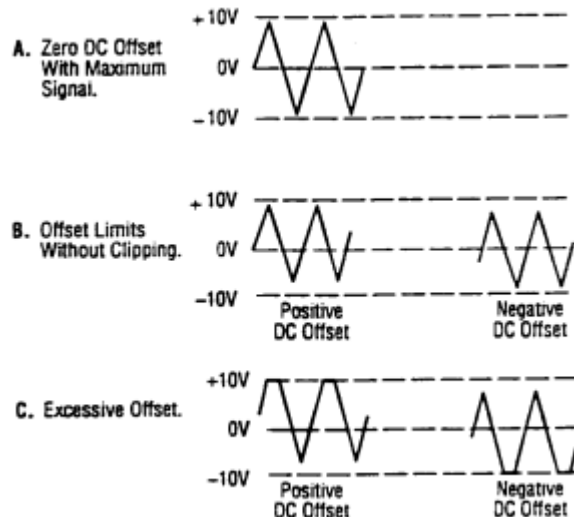

Figure 3. Use of DC OFFSET Control
- Adjust the amplitude of the output as desired using the **OUTPUT LEVEL** control (10). Rotation of this control varies the amplitude from maximum to 20dB below maximum. An additional attenuation of -20dB is available by pushing in the **-20dB** switch (5). The attenuation factors can be combined for a total of -40dB. The maximum signal level is 10V p-p (into 50Ω).
- A DC component can be added to the output signal by pushing in the **DC OFFSET** switch (4) to enable operation of the **DC OFFSET** control (11). Rotation of this control adds a positive or negative DC component to the output signal. The DC component introduced is independent of the **OUTPUT LEVEL** control and can be varied by ± 10 volts open circuited or ± 5 volts into 50Ω. The DC Offset does not affect the **TTL/CMOS** output jack. The effect of DC OFFSET is shown in Fig. 3.
6. Remember that the output signal swing of the generator is limited to ±10 volts open circuited or ±5 volts into 50Ω, and applies to the combined peak-to-peak signal and DC offset. Clipping occurs slightly above these levels. Fig. 3 illustrates the various operating conditions encountered when using the DC offset. If the desired output signal is large or if a large DC offset is required, an oscilloscope should be used to make sure that the desired signal is obtained without undesirable clipping.